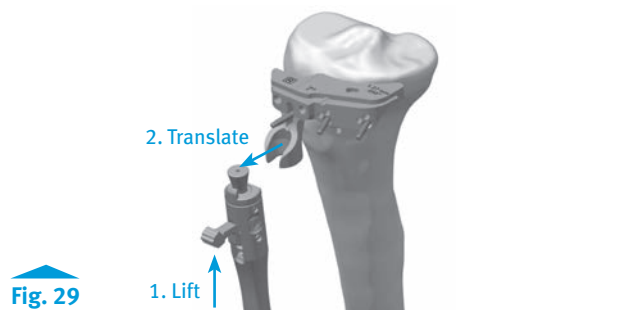

Fig. 29
- The entire EM Alignment Guide can be left in place for additional stability during resection. Optionally, the EM Alignment Guide can be removed by lifting the lever on the EM Proximal Tube up to the open position, translating the EM Alignment Guide anteriorly while leaving the cut guide in place (Fig. 29). If the EM Alignment Guide has been removed, additional 2mm adjustments may be made by shifting the cut guide to the sets of holes marked “+2”, and “+4”. The markings on the cut guide indicate, in millimeters, the amount of additional bone resection relative to the standard tibial resection set by the cut guide and stylus. If a pin or screw was inserted into the 12mm vertical slot, it will need to be removed to make the 2mm adjustments.